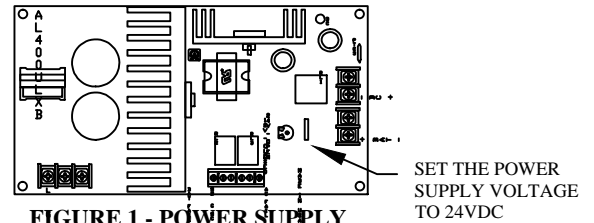

FIGURE 1 - POWER SUPPLY
- (1) 22 GAUGE SHIELDED PAIR [AUDIO]
2. ADJUST THE POWER SUPPLY VOLTAGE (SEE FIGURE 1)
THE 4200 RESCUE ASSISTANCE SYSTEM REQUIRES THE POWER SUPPLY VOLTAGE TO BE SET AT 24VDC. THE CORNELL POWER SUPPLIES ARE FACTORY-SET AT 12VDC. SEE THE LOCATION OF THE SWITCH IN FIGURE 1.